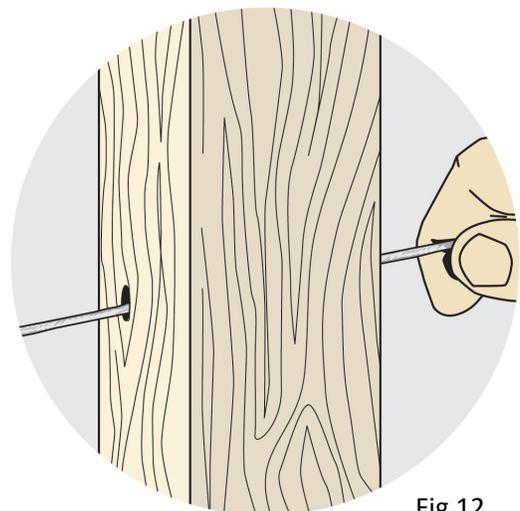

Fig 12
- b) Lace cable through intermediate posts (Fig. 12).